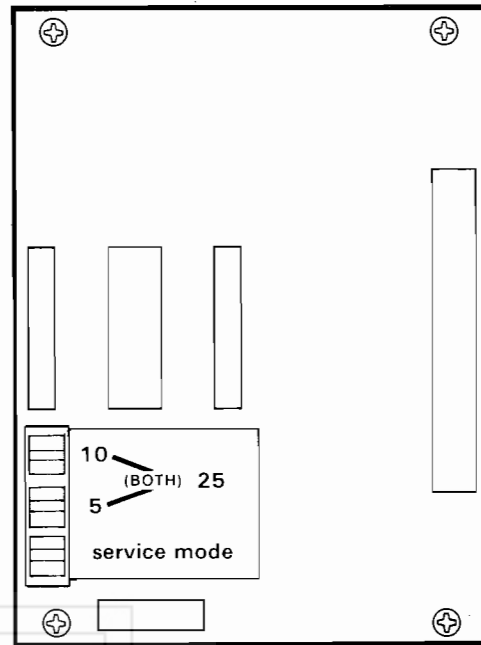

Figure 1. MODE SWITCHES
Turn power onto the machine by using the cheat interlock tool used in export machines only or by pulling the door interlock switch out, Page 35 Item 3. To set up prices in the machine you will have to first press the service mode button once on the control board, (See Figure 1) and use the selection panel buttons for programming.
- F. To **increase** that selection price - press #6. The L.E.D. will then increase in increments of (10). **Export only.**
- G. To **decrease** that selection price - press #5. The L.E.D. will then decrease in increments of (10). **Export only.**
- To program or change the start & duration times you will have to use the #1, #2, #3 selection buttons. First, push the service mode switch on the control board. (See Figure 1). Then push selection #1 and channel "0" will show up on the L.E.D. display. Press the selection #2 and the start time of 25.0 for channel "0" will show up
The brewer may be adjusted to stop at any point in the cycle, but the ready-to vend position we recommend are as follows: See Figure 1.
(Fig. 1)